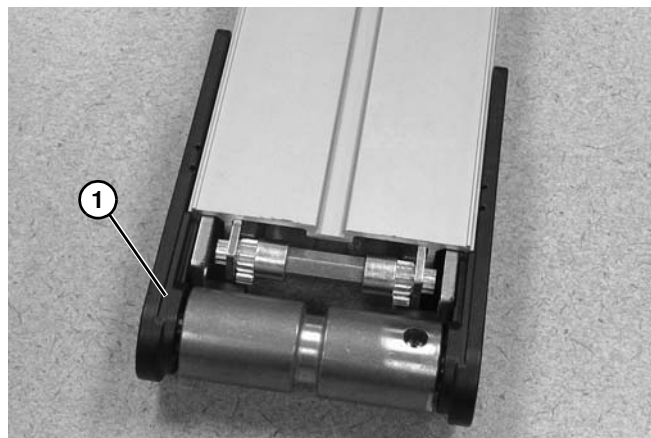

Figure 153
11. Reinstall idler tail by sliding tail assembly (**Figure 153, item 1**) fully back onto conveyor frame.